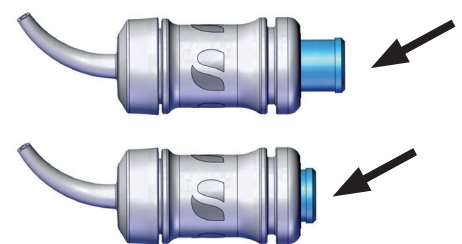

Fig. 4
- ⇒ Open the equipment cover (3).
- ⇒ Activate the capsule by pressing in the pin (Fig. 4).
- ⇒ Insert the capsule into the capsule holder (2).
- ⇒ Press start key (1).